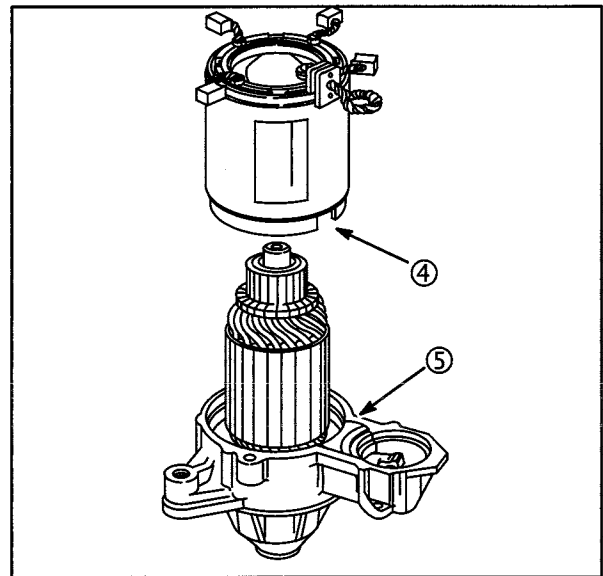

Fig. 43
2. Assemble starter housing to drive housing, engaging notch in housing with tab on drive lever support, Fig. 43.